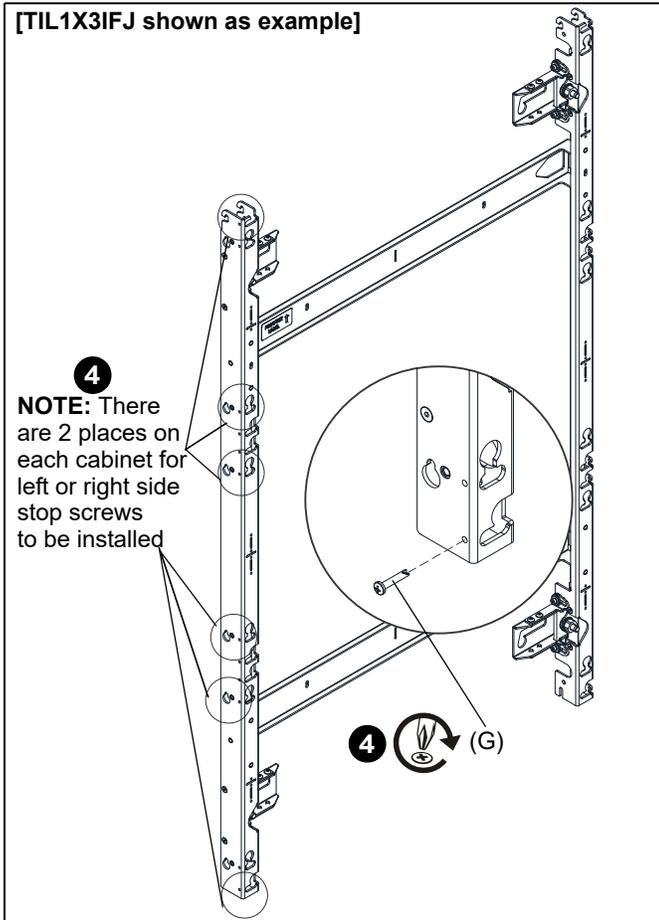

Figure 17
- If the cabinets need to be moved slightly to either the left or right, insert two 10-24 x 1" self-tapping screws (G) **per cabinet** into the left or right side of the mount. (See Figure 17)